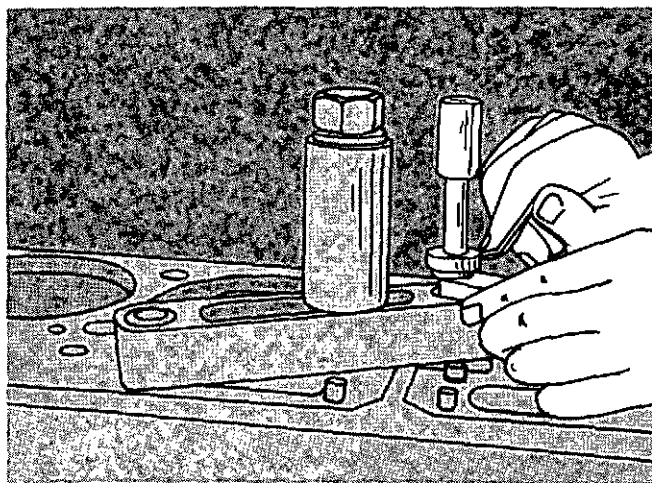

Fig. 1-31. Adjust The Depth Of The Cutter.
- e. Slide the stop collar down against the gauge block, Fig. 1-31. Tighten the setscrew in the stop collar.